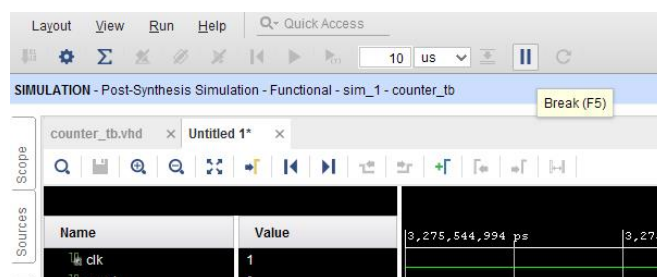
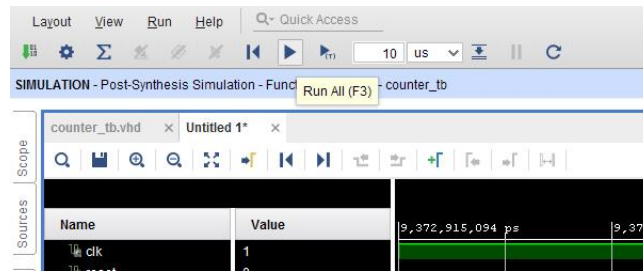

Figure 26
Figure 27
7. We may also run simulation until **Break** is pressed (Figure 26) by clicking on the **Run All** icon (Figure 27)